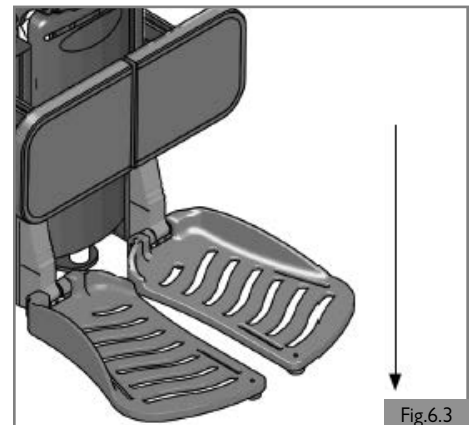

Fig.6.3
#### Lower the centermount foot plate (Fig. 6.3)
4. Push the joystick forward until the footplates rest fully on the ground. (Fig. 6.3)